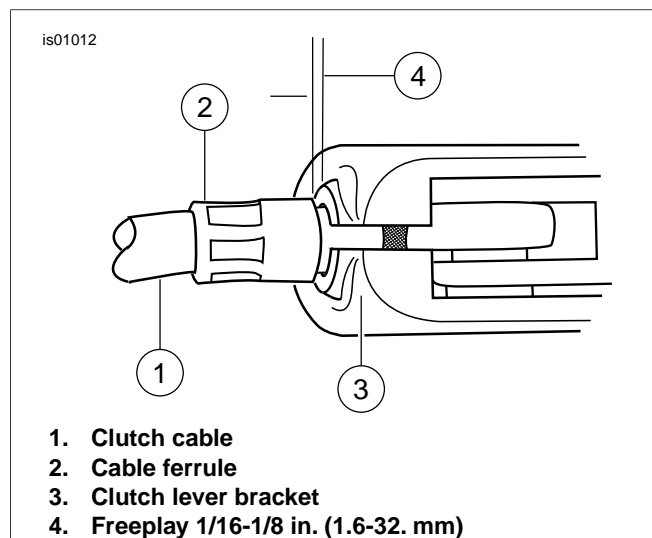

Figure 8. Clutch Hand Lever
- b. See Figure 8. Pull clutch cable ferrule (2) away from clutch lever bracket (3) to check free play. Turn cable adjuster as necessary to obtain 1/16-1/8 inch (1.6-3.2 mm) free play between end of cable ferrule and clutch lever bracket (4).